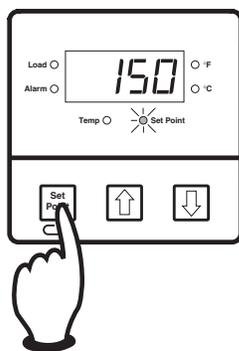

Figure 4.1
3. To adjust the set point on the CN 2110 Temperature Controller, press and hold the Set Point button (see Figure 4.1). The Set Point light is illuminated and the set point value is displayed.